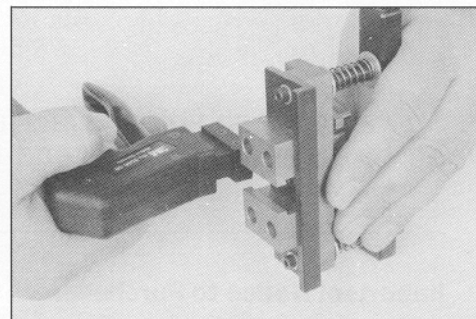

Fig. 3
2. Mount Assembly Head 3714 on the Pistol Grip 3586-12. The assembly head snaps into position. (fig. 3)